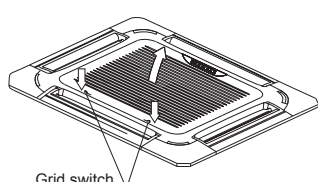

Fig. 5-9
- Slide two grill switches toward the middle at the same time, and then pull them up. (Refer to fig.5-9)